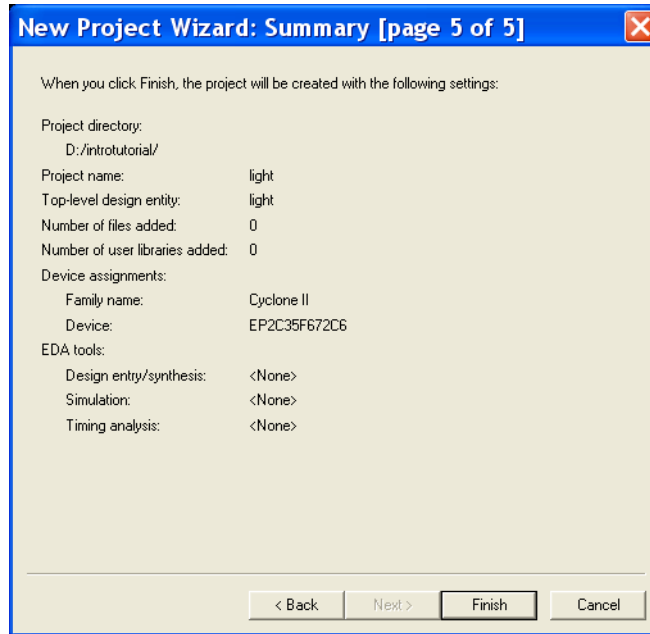
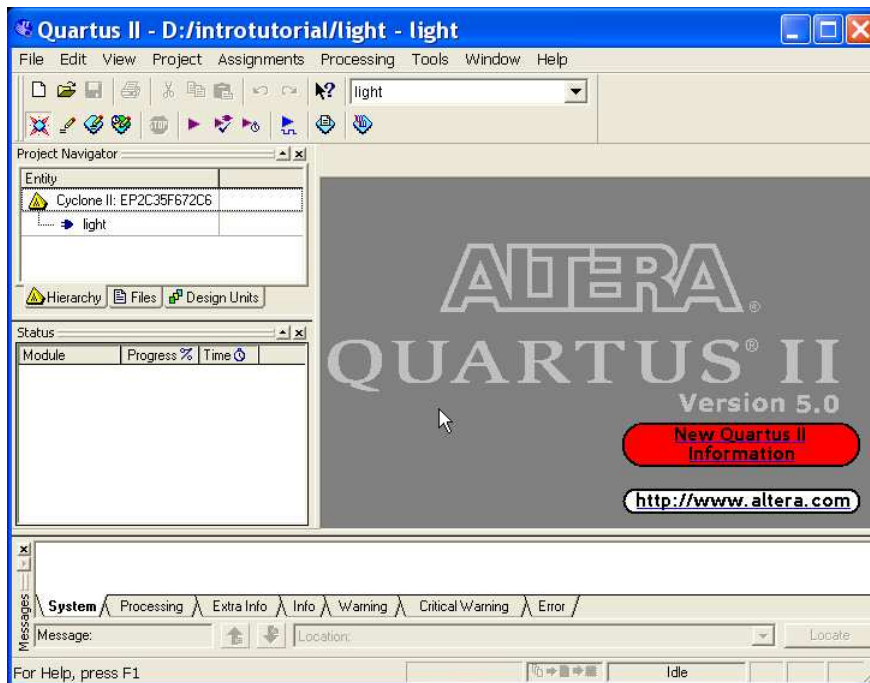

Figure 10. Summary of the project settings.
Figure 11. The Quartus II display for the created project.
6. A summary of the chosen settings appears in the screen shown in Figure 10. Press Finish, which returns to the main Quartus II window, but with *light* specified as the new project, in the display title bar, as indicated in Figure 11.